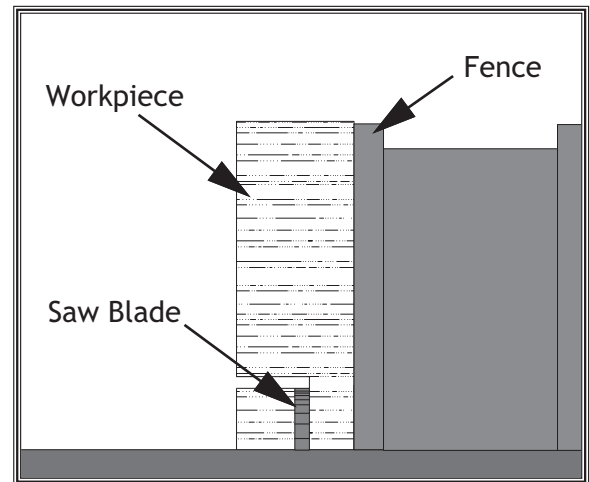

Figure 51. Second cut when rabbet cutting with a standard rip blade.
5. Stand the workpiece on edge as shown in **Figure 51**, and adjust the saw blade height to intersect with the first cut.